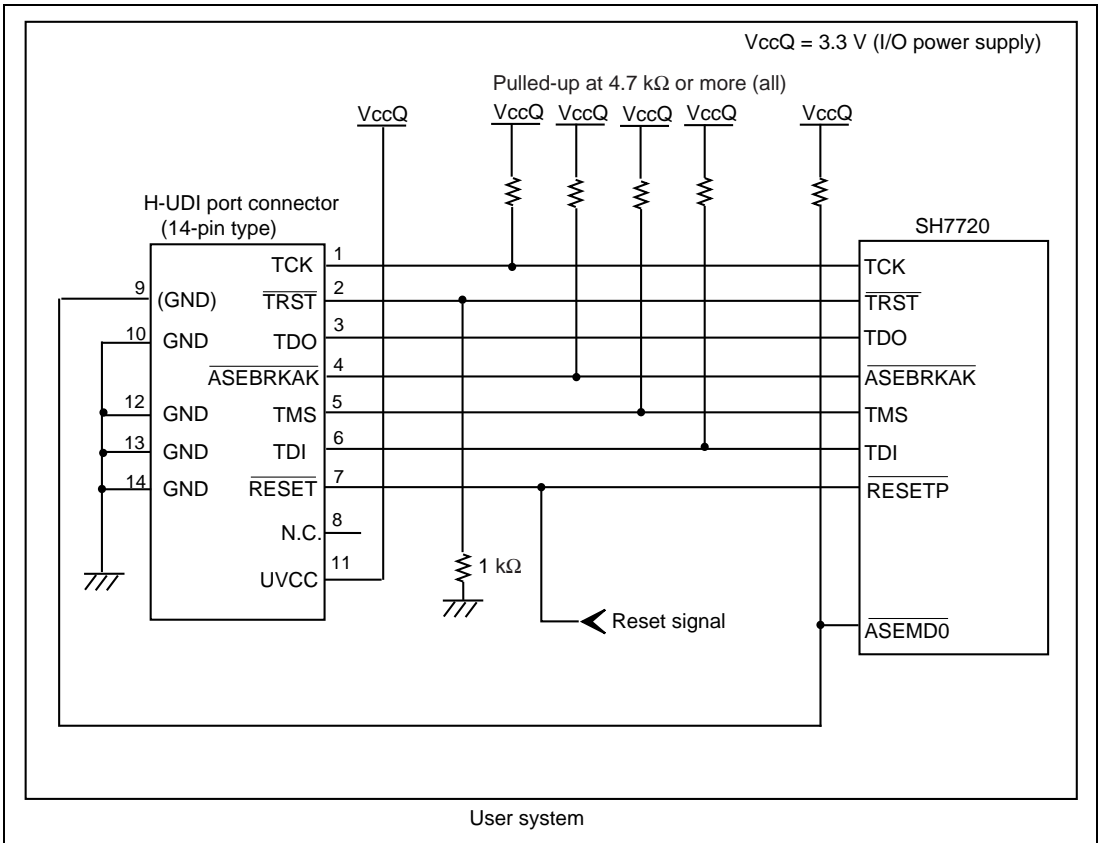
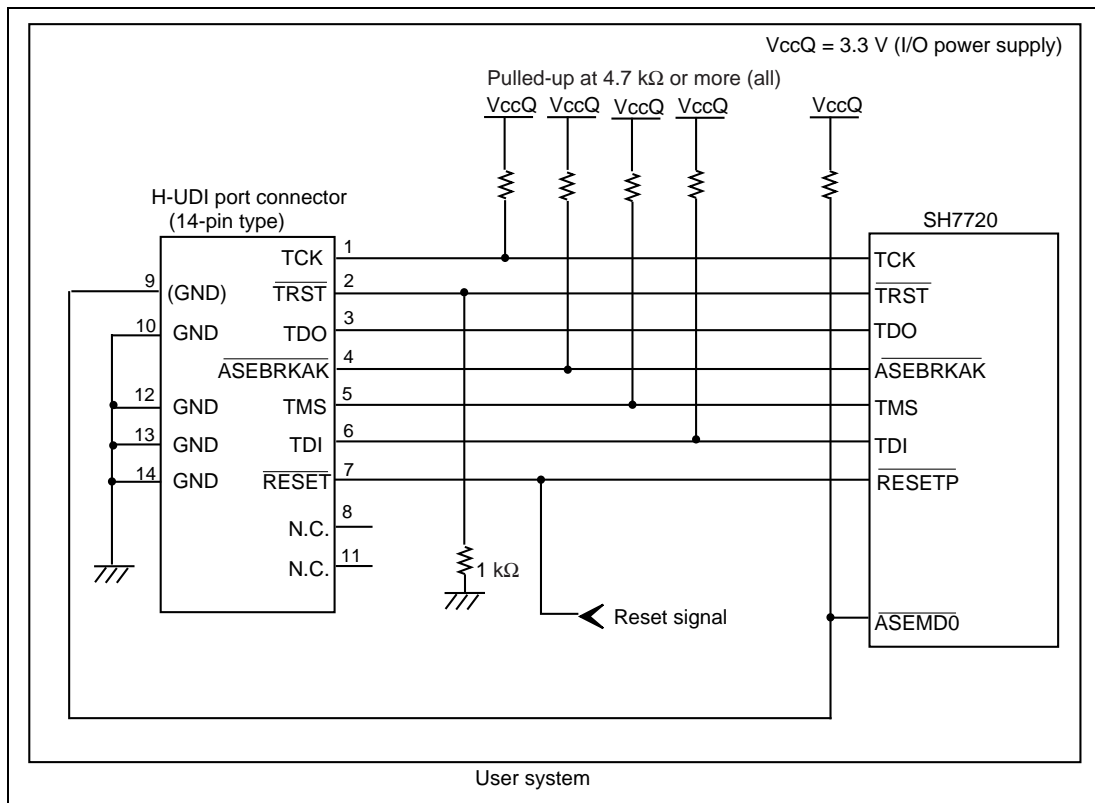

Figure 1.5 Recommended Circuit for Connection between the H-UDI Port Connector and MPU when the Emulator is in Use (14-Pin Type UVCC Connected)
Figure 1.6 Circuit for Connection between the H-UDI Port Connector and MPU when the Emulator is in Use (14-Pin Type UVCC Not Connected*)
Figure 1.5 shows a recommended circuit for connection between the H-UDI and AUD port connectors (14 pins) and the MPU when the emulator is in use. Figure 1.6 shows a circuit for connection when UVCC is not connected.
- (1) When the emulator is used: /ASEMD0 = 0 (ASE mode)
- (2) When the emulator is not used: /ASEMD0 = 1 (normal mode)Figures 1.5 and 1.6 show examples of circuits that allow the /ASEMD0 pin to be GND (0) whenever the emulator is connected by using the user system interface cable. When the /ASEMD0 pin is changed by switches, etc., ground pin 9. Do not connect this pin to the /ASEMD0 pin.
5. When the power supply of the user system is turned off, supplying VccQ of the user system to the UVCC pin reduces the leakage current from the emulator to the user system. A level shifter that is activated by the internal power supply or user power supply (changed by the switch) is installed in the interface circuit of the emulator. If the user power is supplied to the UVCC pin, the level shifter is not activated as long as no user power is supplied. When the power supply of the user system is turned off, no current flows from the user interface. The I/O voltage level of the user system interface can be the same as that of the VccQ. To operate the emulator with low voltage (lower than 3.3 V), the VccQ must be supplied to the UVCC pin. Make the emulator's switch settings so that the VccQ will be supplied (SW2 = 1 and SW3 = 1) (as shown in figure 1.5).
When the circuit is connected as shown in figure 1.5, the switches of the emulator are set as SW2 = 1 and SW3 = 1. For details, refer to section 3.8, Setting the DIP Switches, in the SuperH™ Family E10A-USB Emulator User's Manual.
When the circuit is connected as shown in figure 1.6, the switches of the emulator are set as SW2 = 0 and SW3 = 1. For details, refer to section 3.8, Setting the DIP Switches, in the SuperH™ Family E10A-USB Emulator User's Manual.